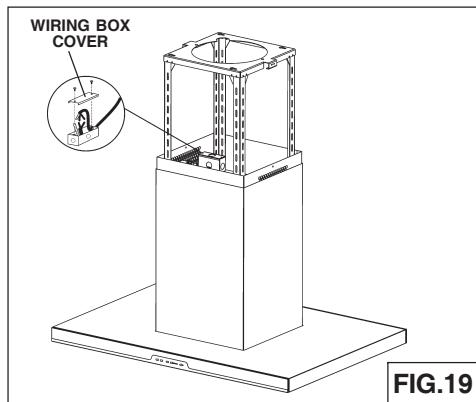

FIG.19
1. Remove the **wiring box cover**. Remove a knockout from the wiring box (Fig.19).